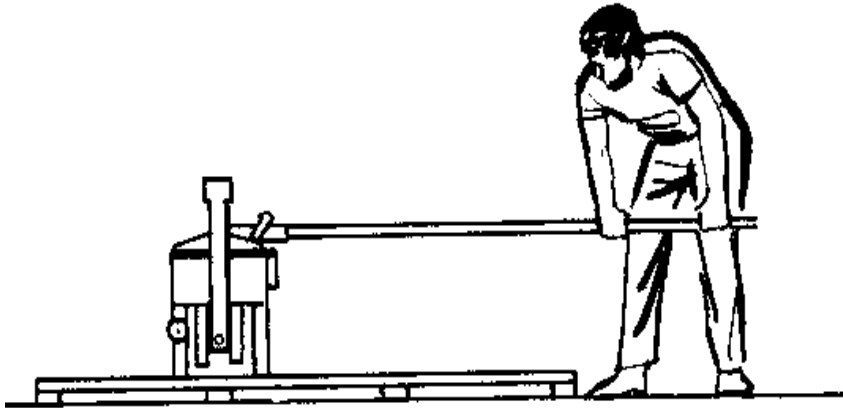

Fig. 10 - Lowering the Lever.
(8) Disengage the lever latch.
(9) Move the lever to a horizontal position on the side opposite the lower rollers.(compression cycle) (see Fig. 10). If the